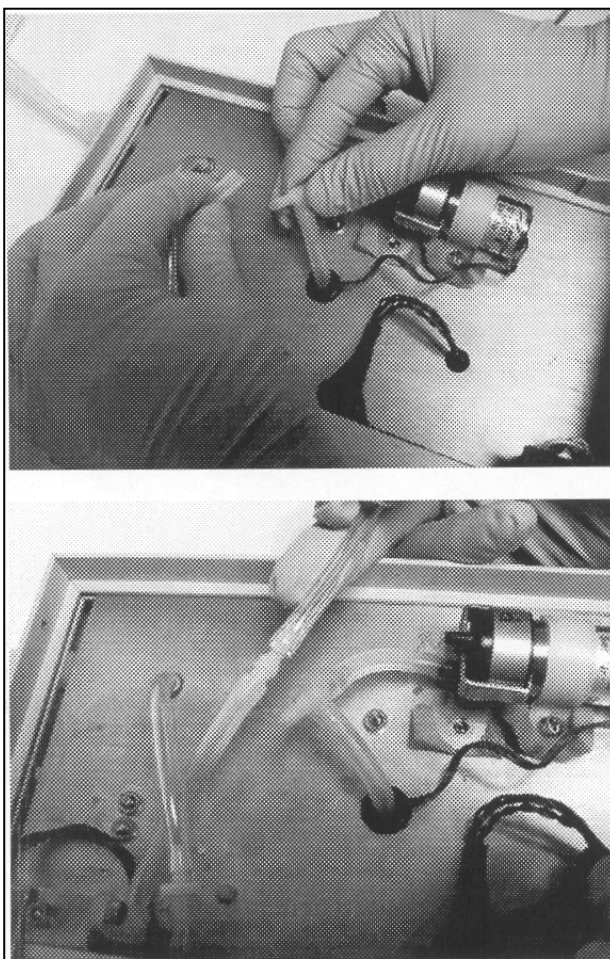

Figure 4-5. Replace Ozone Scrubber with Tubing.
- On the bottom side of the mounting plate, a silicone tube connects the cell exit with a nylon tee. Disconnect this tube at the nylon tee and connect and drain the tube to the silicone tube (see Figure 4-5).